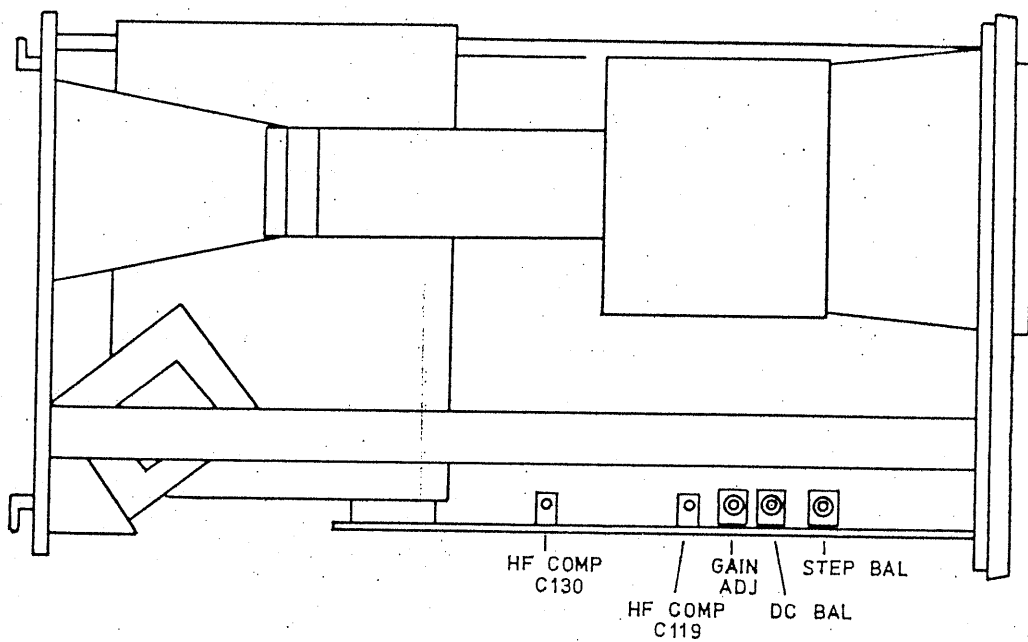

Fig. 23
- (1) Set the GND switch (10) in the GND state and display the trace on the CRT screen.
- (2) Turning the VOLTS/DIV switch between 10 mV and 50 mV positions, so adjust the STEP BAL control (see Fig. 23) that the shift of the trace becomes minimum.
- (1) Set the pulse wave generator output at 80 mVp-p and apply this signal to the vertical INPUT terminal (8).
- (2) Set the VARIABLE knob (6) in the CAL position and the VOLTS/DIV switch (7) in the 10 mV position, and so adjust the GAIN ADJ control (Fig. 23) that the deflection amplitude on the CRT screen is made 8 DIV.
- o Adjustment of high frequency characteristics of vertical amplifier (see Fig. 23)